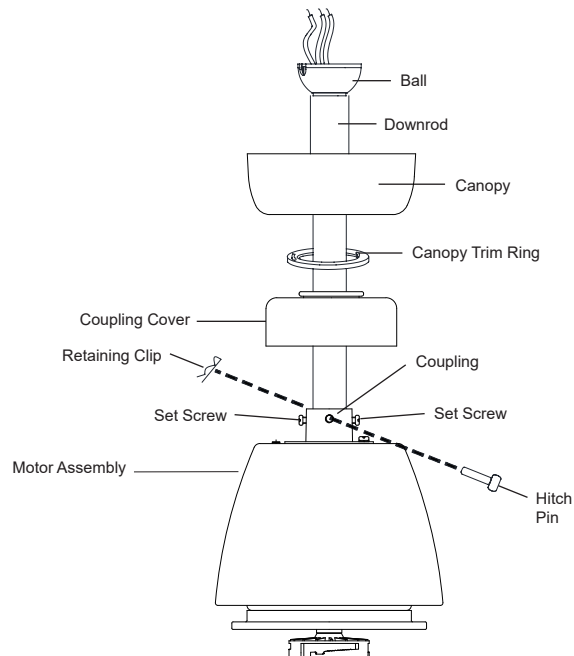

Fig. 8
Step 4. Loosen the two set screws (do not remove) in the coupling on top of the motor assembly. (Fig. 8)
Step 5. Carefully feed the wires from the coupling on top of the motor assembly up through the downrod. (Fig. 8)
Step 6. Thread the downrod into the coupling on top of the motor assembly until the hitch pin holes in the downrod and the hitch pin holes in the coupling are aligned. Carefully insert the hitch pin through the holes in the coupling and the downrod. (Fig. 8)
Insert the retaining clip through the hole in the hitch pin until it snaps into its locked position. (Fig. 8)
Step 7. Tighten the two set screws in the coupling on top of the motor assembly firmly. (Fig. 8)
Step 8. Carefully slip the coupling cover, canopy trim ring (smooth finished side facing motor body), and canopy onto the downrod. (Fig. 8)